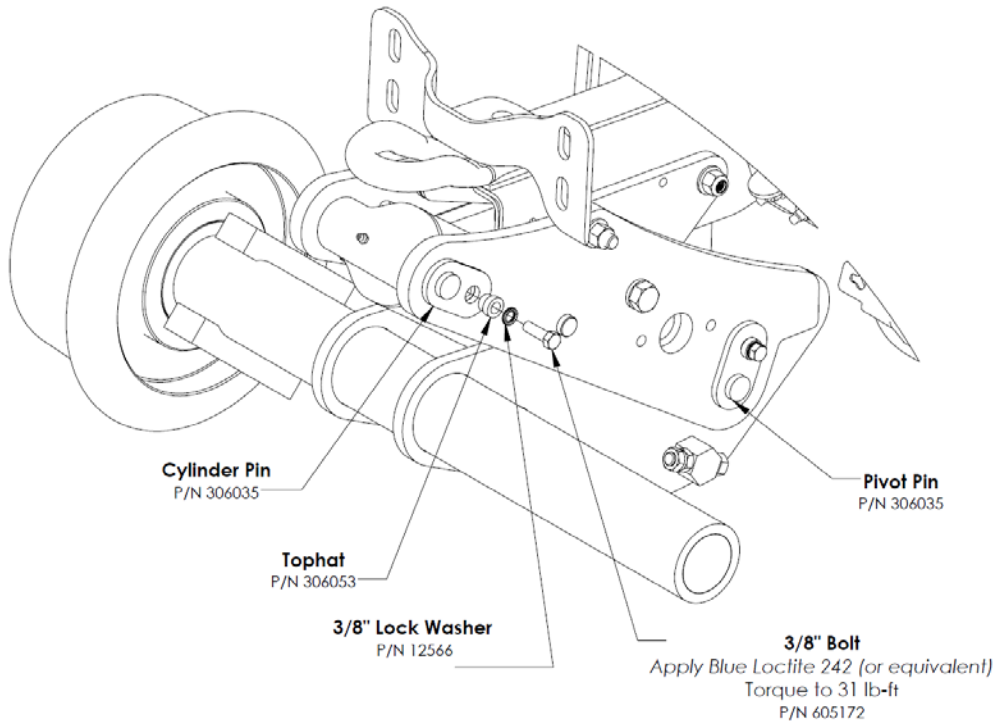

Figure 1. RW-1019B Front Pin Assembly – Ford & Ram
1. Remove the 3/8" bolts retaining the base-end cylinder pin and the pivot pin (**FIGURE 1**; Ford shown, Ram similar).